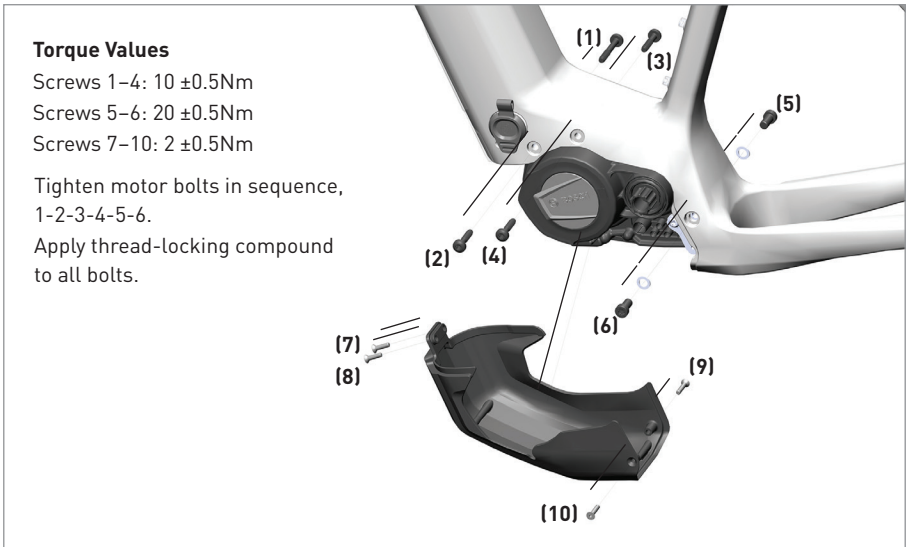

Figure 5
5. When reinstalling the motor, use the torque values listed in Figure 5.